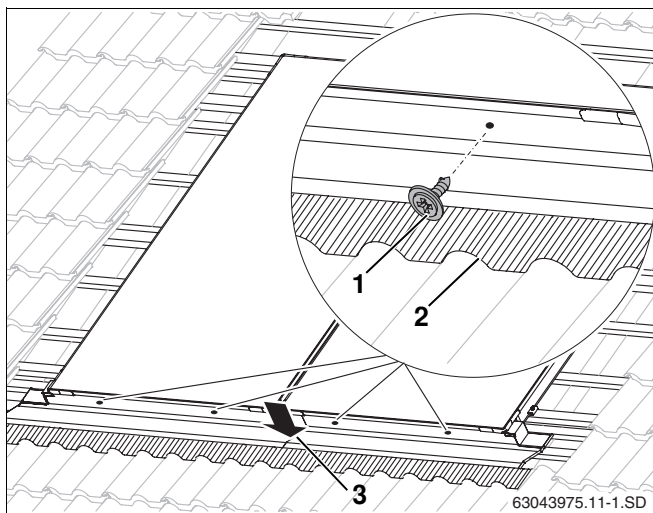

Fig. 48 Fastening the lower collectors
- Fasten the collectors with screws (12 mm long, Fig. 48, **Pos. 1**) and sealing discs in the centre punch marked on the collector.
- Press the upper facing collector down onto the lower one (Fig. 48, **Item 3**).
- Carefully adjust flashing in the area in front of the roof tile contour (Fig. 48, **Item 2**).